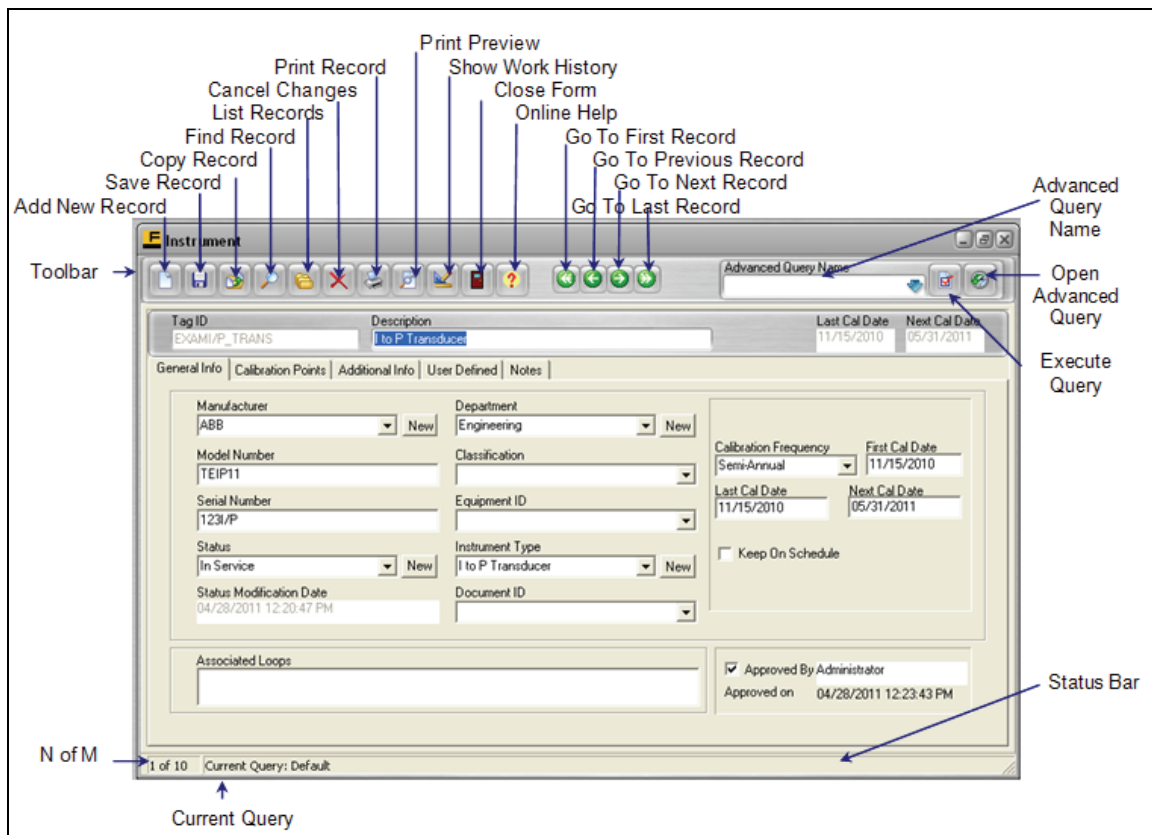

Figure 5.1
This screen's sub-category **Toolbar** contains fifteen (15) different action buttons, although some screens in the program may not contain all of these if they are not applicable. In addition, the **Toolbar** also has an *Advanced Query Name* field with buttons providing quick access to the ADVANCED QUERY SCREEN and queries that have been saved in the system. You may view each button's function by slowly moving the mouse along the **Toolbar**. As you do this, each button's function will be displayed in a yellow hint box. To use an action button, click it with your mouse. Each button and its function are illustrated in Figure 5.1 shown below. The Master Instrument Record screen is used for this demonstration.
When a standard screen is open, the **File** menu changes to offer you similar options to that of the sub-category **Toolbar** shown in Figure 5.1 on the previous page. For example, from the **File** menu on the Instrument screen you may select from the following choices: “New Record”, “Copy Record”, “Save Record”, “Find Record”, “List Records”, “Show Work History”, “Delete Record”, “Close Form” and “Exit DPCTrack2”.